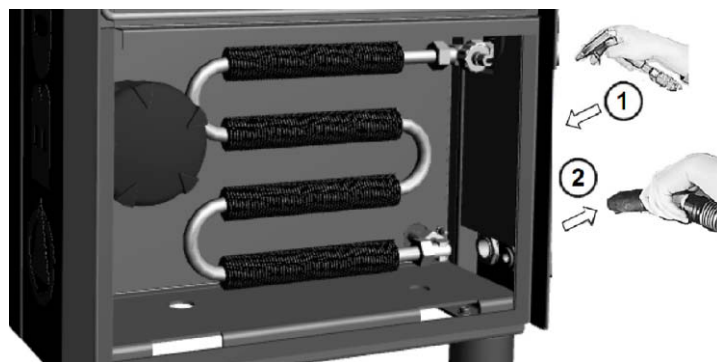

Fig. 6.6: Clean Type EO 6...EO 6 TR secondary cooler
Secondary cooler: blow out any dirt with compressed air (1) in the opposite direction to the normal flow of cooling air (see fig. 6.6 and 6.7).
8. Suck up the blown out dirt using an industrial vacuum cleaner (2) (see fig. 6.6 and 6.7).